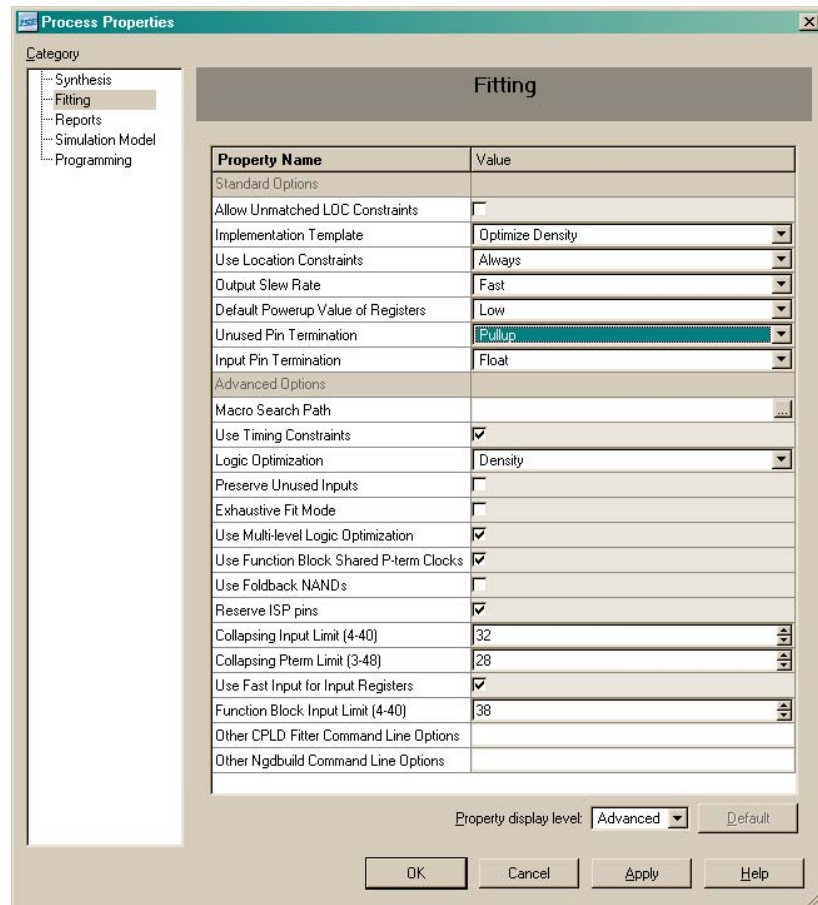

Figure 4: Selecting Register Power-Up State
2. Registered output pins will go to either a set or reset until the first valid clock edge is generated. This clock edge will then clock the value of the register's input to its output. **Figure 4** illustrates how the set or reset state upon power up is software selectable in Project Navigator. This property can be selected in the **Implement Design Process Properties** window for all registers. To specify the initial state for an individual register, please refer to XAPP352: "Utilizing a User Constraint File for CoolRunner CPLDs".